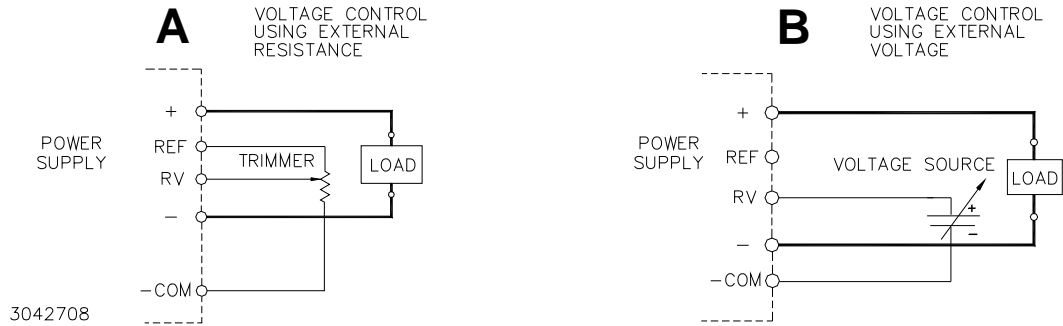

FIGURE 5. CONNECTIONS FOR REMOTE VOLTAGE CONTROL
RESISTANCE: Use a shielded wire 6.6 feet (2M) maximum in length, for connection (of REF, RV, and -COM terminals) to the trimmer control. Connect the external trimmer as shown in Figure 5 (A). Suggested value for the trimmer control is 5K ohms. With the external trimmer control at its maximum clockwise position, set the output voltage to the desired maximum value by adjusting Vadj clockwise. The output voltage adjustment range is from 70 to 130% for the 24V model, 17 to 153% for the 36V model, and from 70 to 115% for the 48V model.
VOLTAGE. By adjusting an external 3.5 to 6.5V voltage source the 24V model can be adjusted from 70 to 130% of the nominal output. By adjusting an external 0 to 5.75 voltage source the 36V model can be adjusted from 17% to 153% of the nominal output. By adjusting an external 3.5 to 5.75V voltage source the 48V model can be adjusted from 70 to 115% of the nominal output. Remove the shorting link between the REF and RV terminal. Connect the voltage source across the RV and -COM terminals as shown in Figure 5 (B).